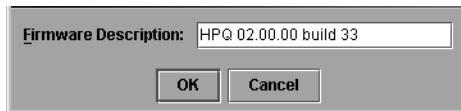

Figure 52: Modify Firmware Description dialog box
4. Choose the firmware version to be modified and click **Modify**. The **Modify Firmware Description** dialog box displays, as shown in Figure 52.